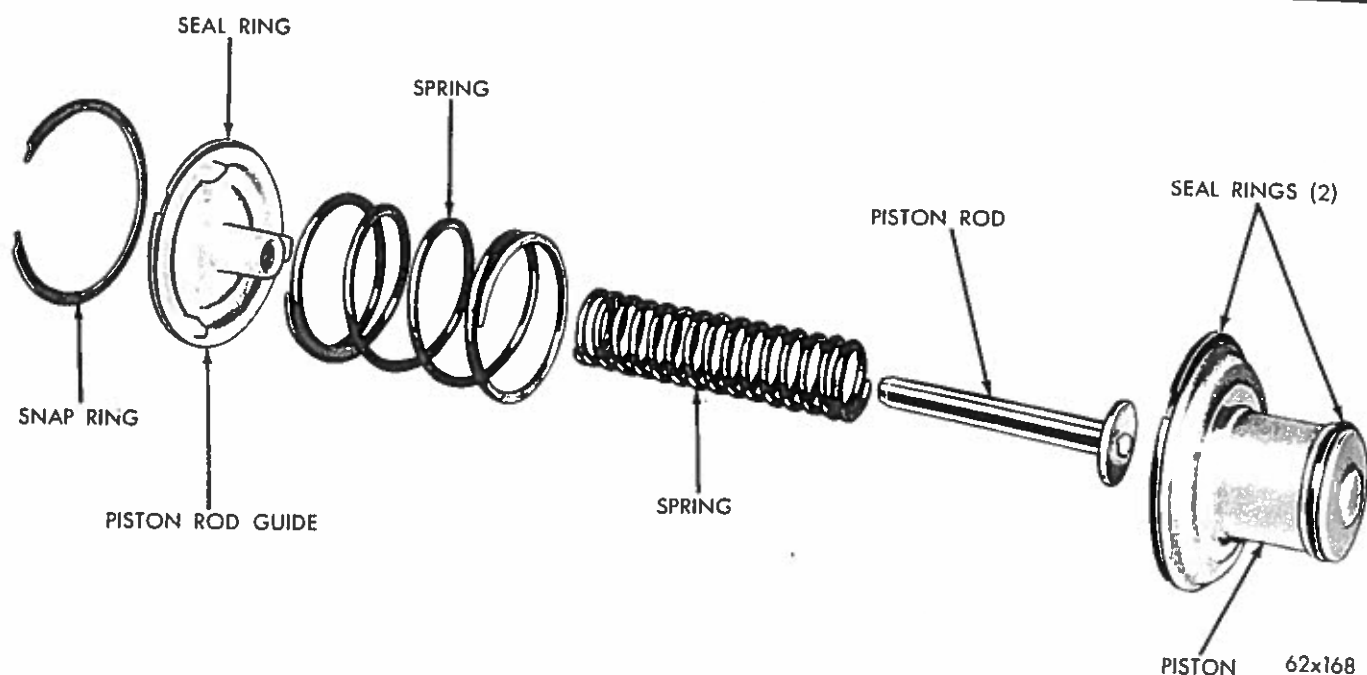

Fig. 70—Kickdown Servo (Exploded View)
Figure 70 shows an exploded view of the kickdown servo assembly.
(1) Carefully push the servo piston into case bore. Install piston rod, the two springs and the guide (Fig. 70).
(2) Compress the kickdown servo springs by using "Engine Valve Spring Compressor Tool C-3422", then install the snap ring.